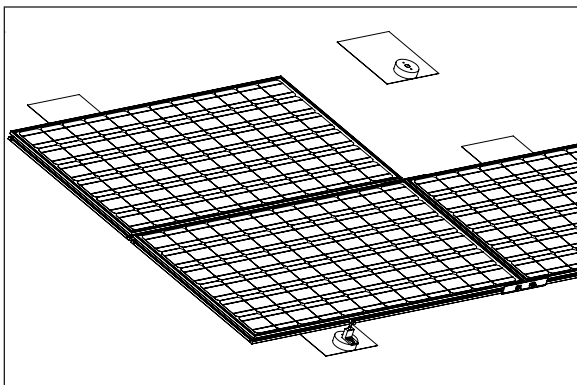
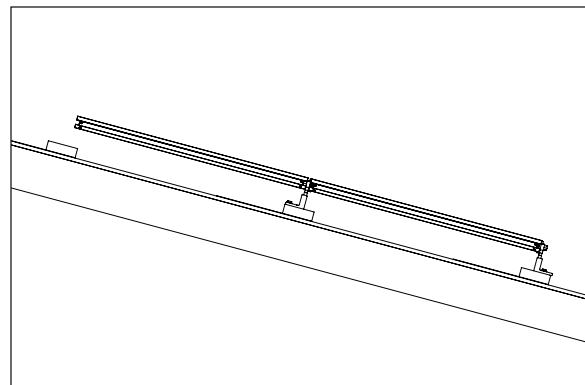

Figure 5.10E
Figure 5.10F
3. Proceed to lower all the way to the surface of the roof while continuing to apply pressure toward the tongues (Figure 5.10E and Figure 5.10F). If the newly installed Module does not fully seat into the Zeps, bring it back up to 15 degrees and apply pressure once again to fully seat it.